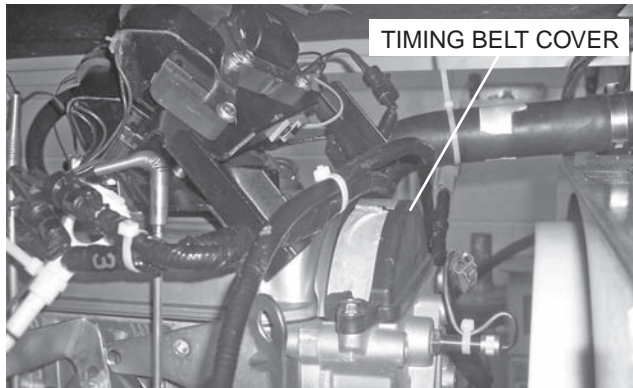

Figure 8
8. Place the ignition coils and bracket on top of the valve cover and away from the timing belt cover (Figure 8).
9. Remove the top (black) timing belt cover from the engine (Figure 8).